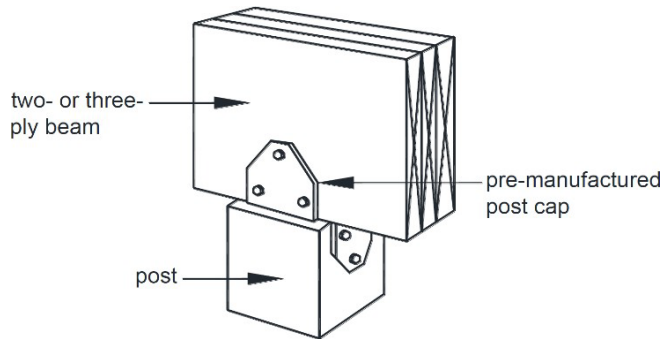

FIGURE 5 - POST CAP CONNECTION
- Three-ply beams shall be attached to 6x6 posts using the method shown in Figure 5.
- Beams shall be attached to 4x4 posts using the method shown in Figure 5